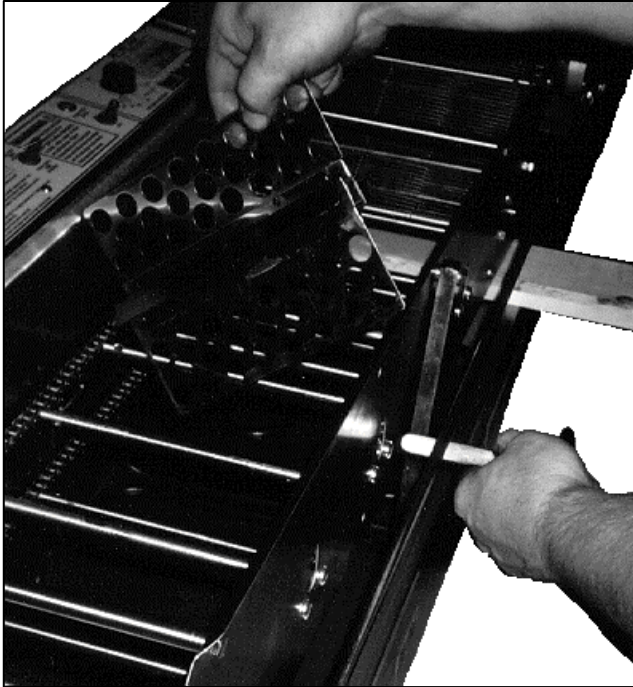

Figure 3-3. Removing the Turner Assembly.
- d. Lift out the turner assembly. See Figure 3-3.